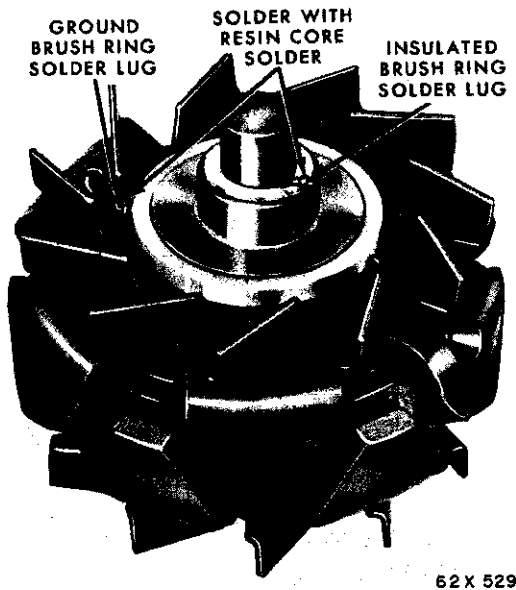
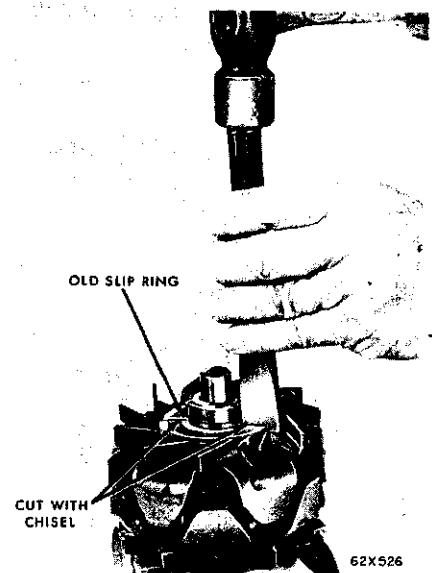
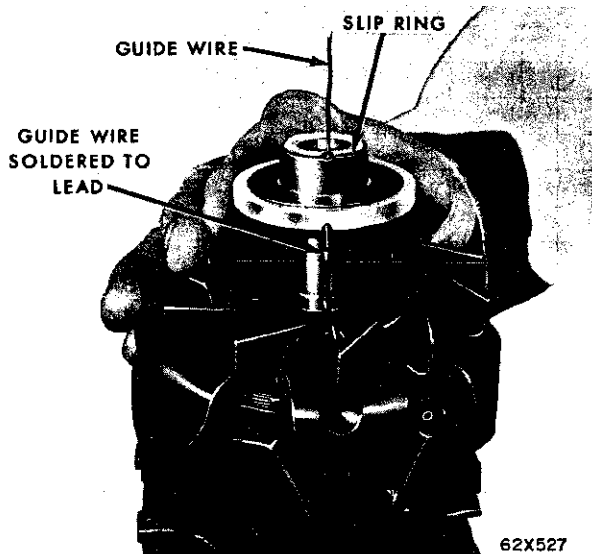
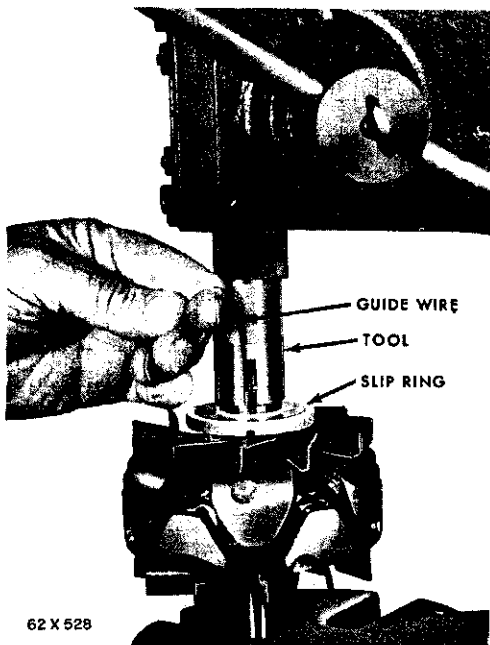

Fig. 27—Solder Points—Slip Ring Installed
Fig. 28—Cutting the Old Slip Rings
Fig. 29—Aligning the Slip Ring with the Field Wire and Guide Wire
Fig. 30—Installing the Slip Ring
(1) Cut through the rotor grease retainer with a chisel and remove the retainer and insulator.
(2) Unsolder the field coil leads at the solder lugs (Fig. 27).
(3) Cut through the copper of both slip rings at opposite points (180° apart) with a chisel (Fig. 28).
(4) Break the insulator and remove the old ring.
(5) Clean away dirt and particles of the old slip ring from the rotor.
(6) Scrape the ends of the field coil lead wires clean for good electrical contact.
(7) Scrape one end (about $\frac{3}{16}$ inch) of a piece of bare wire (approx. 18 gauge) three inches long (to be used as a guide wire).
(8) Tin the scraped area of the guide wire with resin core solder. Lap the tinned end of the wire over the field coil lead to the insulated ring and solder the two together.
(9) Position the new slip ring carefully over the guide wire and the rotor shaft so the wire will lay in the slip ring groove (Fig. 29). The groove in the slip ring must be in line with the insulated brush field lead to provide room for the lead without damaging it.
(10) Place installing Tool C-3900 over the rotor shaft with the guide wire protruding from the slot in the tool.
(11) Position the rotor, slip ring and tool assembly in an arbor press (Fig. 30). Pull upon the guide wire being careful to guide the insulated field lead into the slip ring groove. While guiding the insulated field lead through the groove, press the slip ring on the shaft. When the slip ring is bottomed on the rotor fan the end of the field lead should be visible at the solder lug (Fig. 27).
(13) Coil the ground brush ring field lead around the solder lug (Fig. 27) and solder with resin core solder.